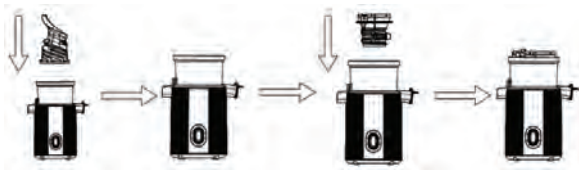

Fig.3
2. Put the grinding head into the juicing jar and ensure the grinding head is covered well into the axis of the motor unit, and then put the strainer downwards to cover the grinding head (see Fig.3). Ensure that the symbol “▶” on the strainer shall align with the symbol “◀” on the juicing jar (see Fig.4).